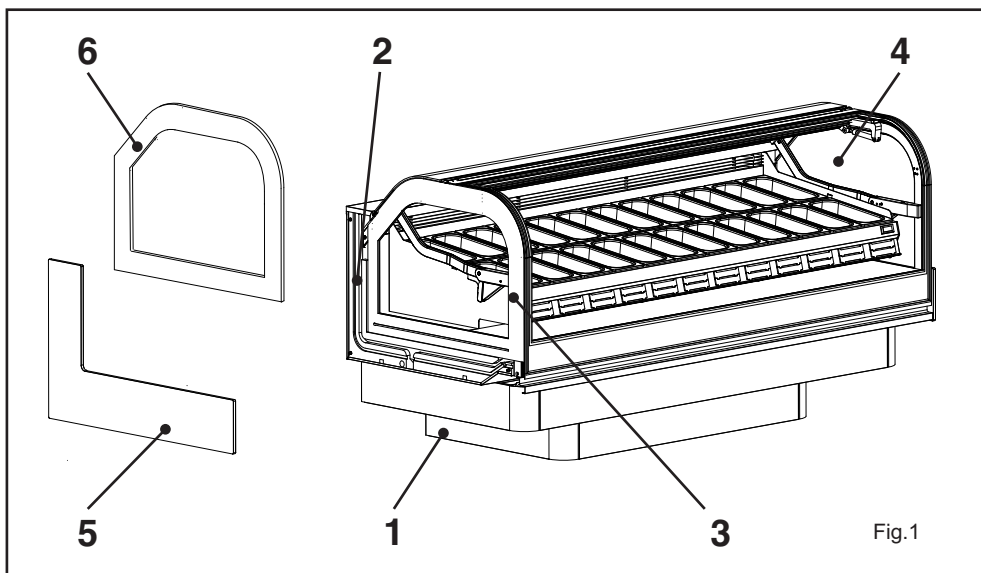

Fig.1
The supporting structure consists of a lower frame (Fig. 1, pos. 1) in steel ducting and sheet metal finishing parts containing the refrigeration unit.
The enbloc tub, used to store and display the goods, is positioned above it (Fig.1, pos.2).
The anodised aluminium uprights (Fig. 1, pos. 3) are fixed to the tub, acting as a support for the glass surfaces. The front double glazed panel (Fig. 1, pos. 4) can be opened by lifting it upwards. The opening mechanism is assisted by gas springs. The access area of the operator can be closed with an opening up glass with the opening assisted by gas springs. Alternatively, it is possible to realize a closure with the more traditional sliding Plexiglas. Both systems are compatible with the intelligent management of defrosts (HCS Hermetic Closure System).
The side panels of the display unit are made of acrylic stone (Fig. 1, pos. 5), while the upper side panels are double-glazed and heated (Fig. 1, pos. 6).